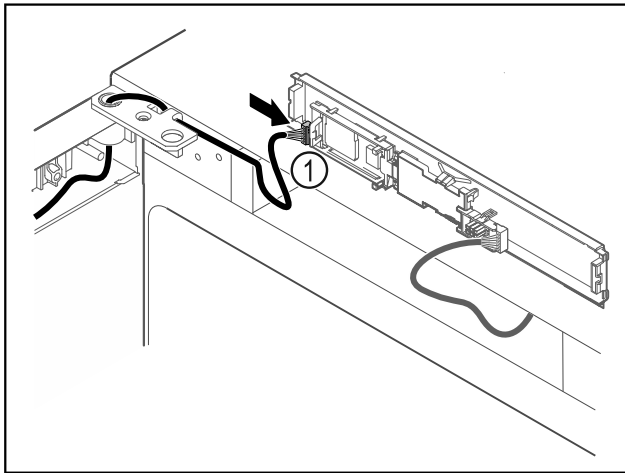

Fig. 59
- ▶ Connect the plug Fig. 59 (1) to the circuit board.